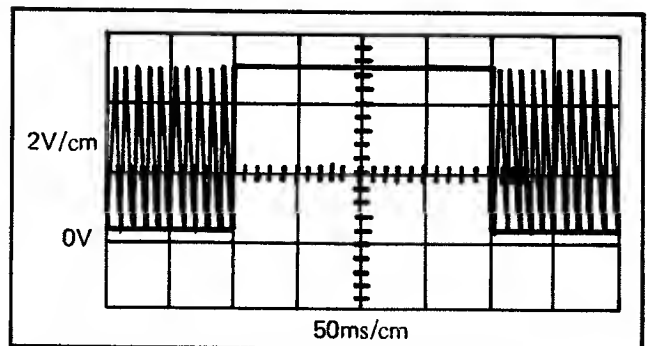
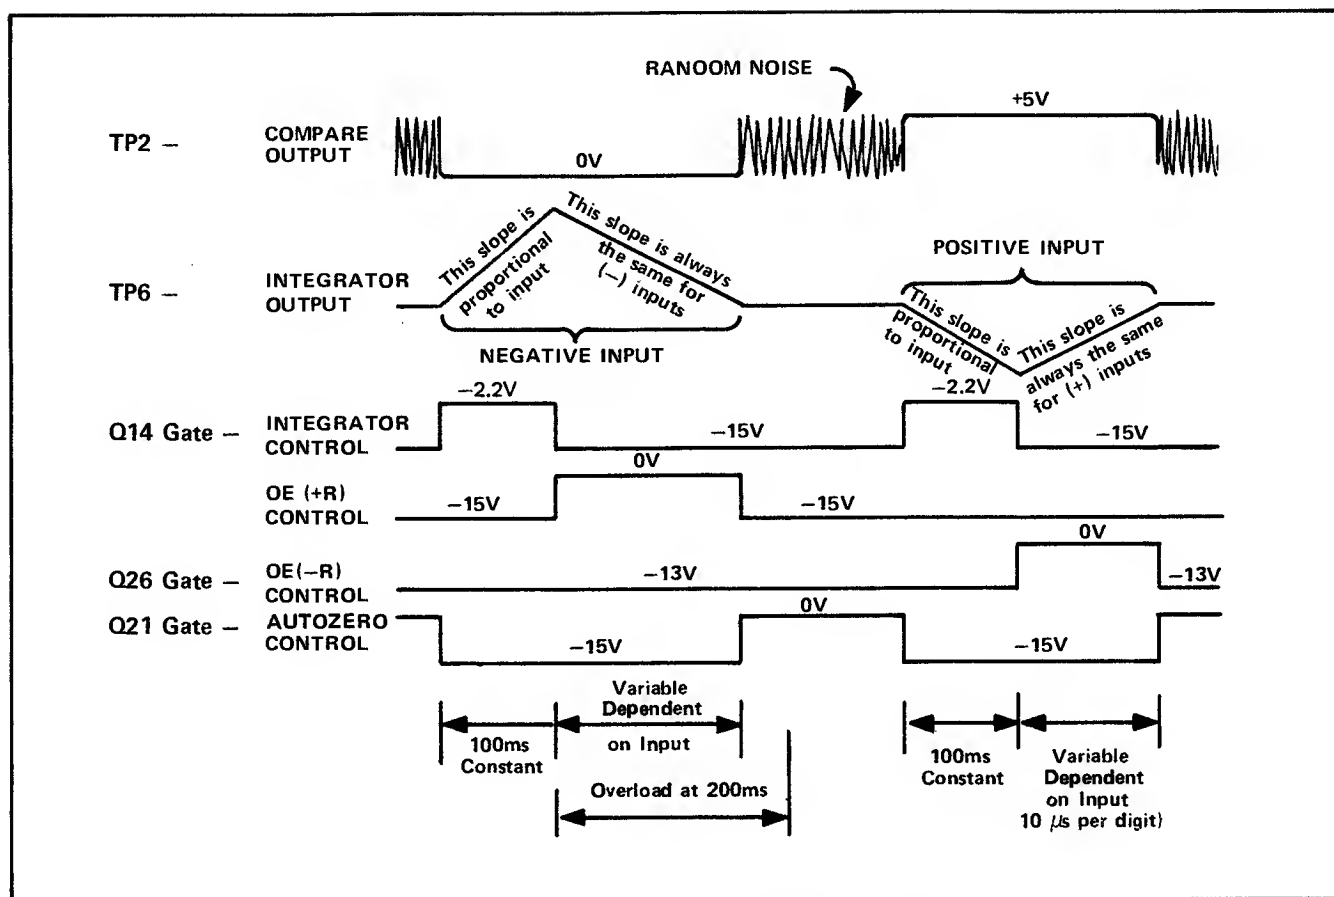

Figure 4-3. A/D CONVERTER OUTPUT SIGNAL
Figure 4-4. A/D CONVERTER CONTROL SIGNALS
- d. The signal at TP2 should be as shown in figure 4-3.
4-59. The stable +5V section of the waveform shown in figure 4-3 should be 200msec long for a +1V dc input. If the dc input voltage is increased to 2V, the stable portion of the waveform should be 300msec long. If the waveform is correct, the problem is in the display section. If the waveform is incorrect, refer to figure 4-4 for further test points and waveforms in the A/D Converter. Check the waveforms at the buffer, U4, for the correct voltage from Q14 and the appropriate reference (U17, Q17, and Q21). U4 has a gain of 5 so the waveform at its output should be 5 times its input (not inverted). The output of U5 should be triangular as shown and opposite in polarity to the buffer input.
4-60. The control waveforms and timing are important to the correct operation of the A/D Converter. The waveforms and test points are shown in figure 4-4. Continue with the test setup in 4-58. First check the signal at the gate of the FET. If absent or wrong, check that output from U8, keeping in mind that the driver transistors act as inverters. The operation of U8 with respect to the A/D Converter may be checked as follows.